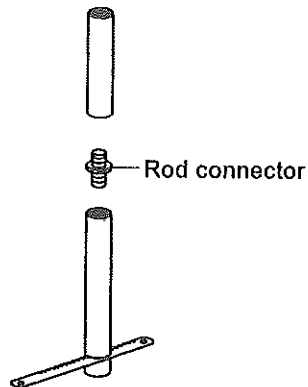

Figure 2-2
- 2-1 Connect short top rod with long top rod by rod connector. (See Figure 2-2.)